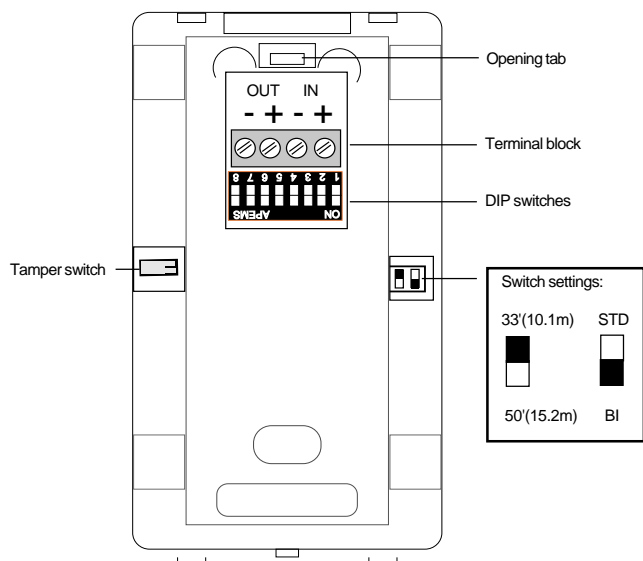

Figure 6. Detector back
2. Select the coverage pattern and set the sensitivity and range switches. See Figure 6, *Selecting the Coverage Pattern*, and *Setting the Sensitivity and Range Switches*.
3. Set the PinPoint address DIP switches. See Figure 6.
6. Strip 1/4 inch (6.4mm) of insulation from the PinPoint wires. Connect the wiring to the appropriate screw terminals and tighten the screws. See Figure 6.
The coverage pattern for the unit can be modified to fit specific applications by masking off mirror curtains. Curtains should be masked to avoid sources of false alarms, such as heaters, air conditioners, and windows. Open the unit by pushing the opening tab up. See Figure 6.
There are switches on the back of the unit for setting sensitivity and range, as shown in Figure 6.